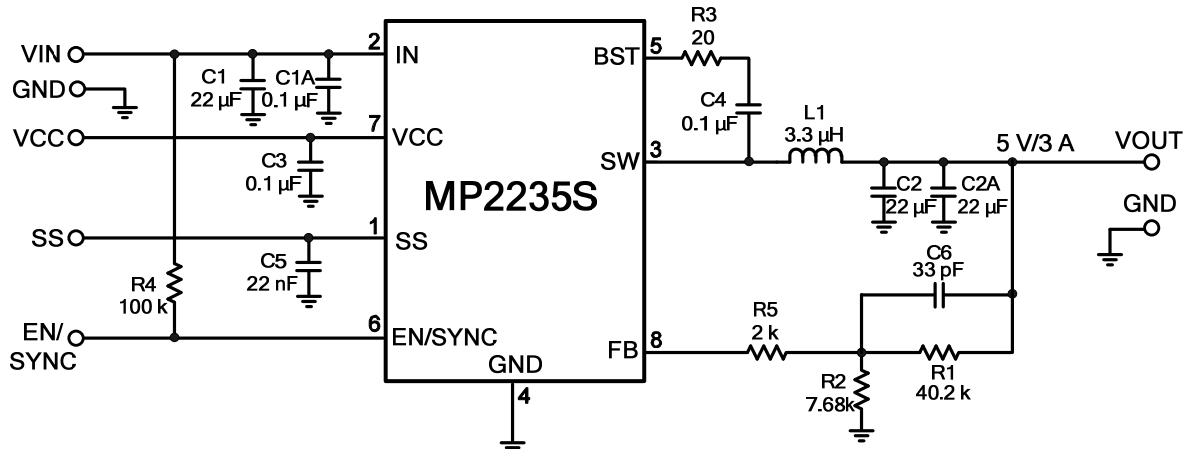

Figure 10—12V_{IN}, 5 V/3 A output
- 9) The recommended layout is based on Figure 10 on page 17.